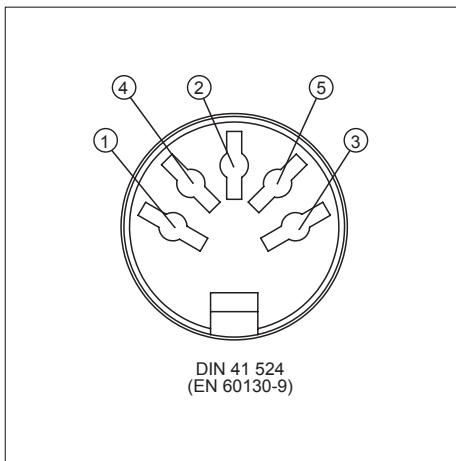

Fig.3 – Assignment of the connection socket
1. Plug the trigger plug into input socket INPUT (B).
3. Assign the connection socket as per **fig. 3**.